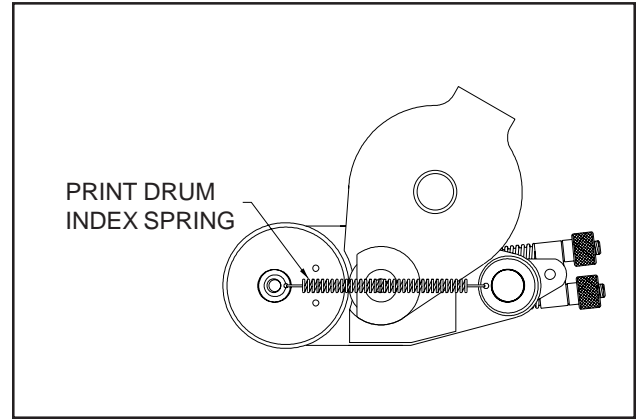

FIGURE 1
**Indexing coders** contain a print drum spring return mechanism which provides print registration capabilities when carton printing (see Figure 1). As the trailing edge of a carton passes the coder, the print drum automatically rotates back to the same starting or “home” position. There must be adequate space between cartons at any given line speed for this mechanism to work properly. Printing with an indexing coder will allow the imprint on each carton to be registered in the same position relative to the leading edge of the carton. The code will repeat every 9.1" down the length of the carton.